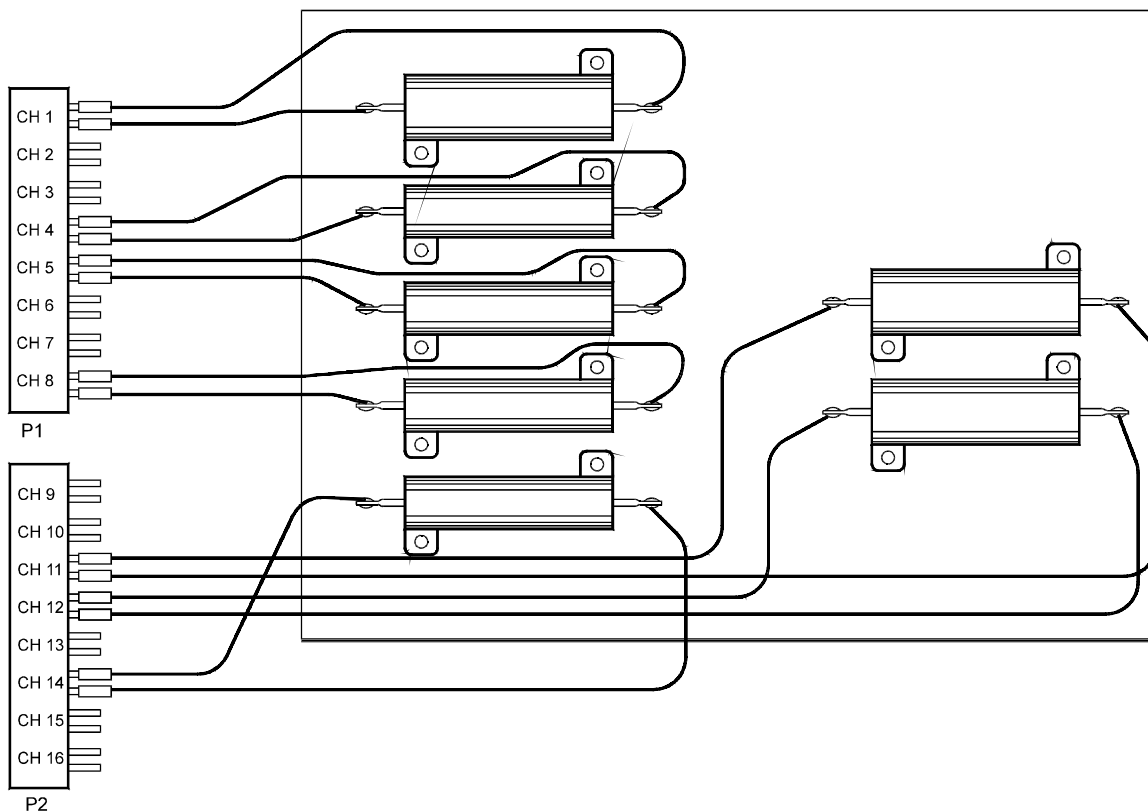

Figure 3-27. Example: Load Plate with Loads
- Low form-factor loads and low value resistive loads for which cable resistance may be a significant factor can be mounted on a Load Plate (Figure 3-27) to be inserted into the Switch/Load Unit slot adjacent to the load card.